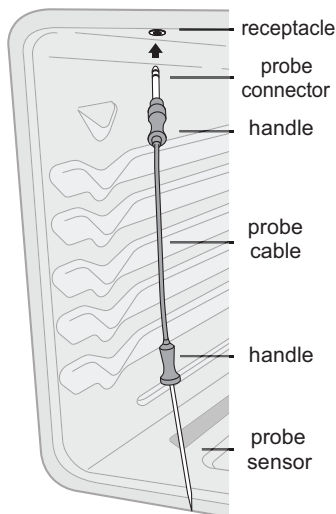

Figure 15: Using the meat probe
Do not use kitchen utensils to pull on the probe cable or handles. Always insert and remove the probe using the provided handles, as shown in Figure 15, and always use a pot holder to protect hands from possible burns.
2. Plug the connector end of the probe all the way into the probe receptacle while the oven is still cool. The receptacle is located on the upper left front oven cavity wall (See Figure 15). Close oven door.